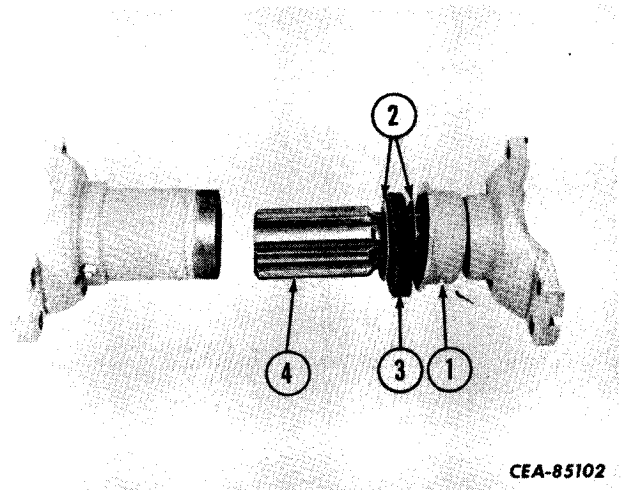

Figure 5-11
Place the packing retainer (1, Fig. 5-11), packing (3), and packing retainer washers (2) on the splined shaft (4) as shown. Use a new packing. Coat the shaft splines liberally with chassis grease.